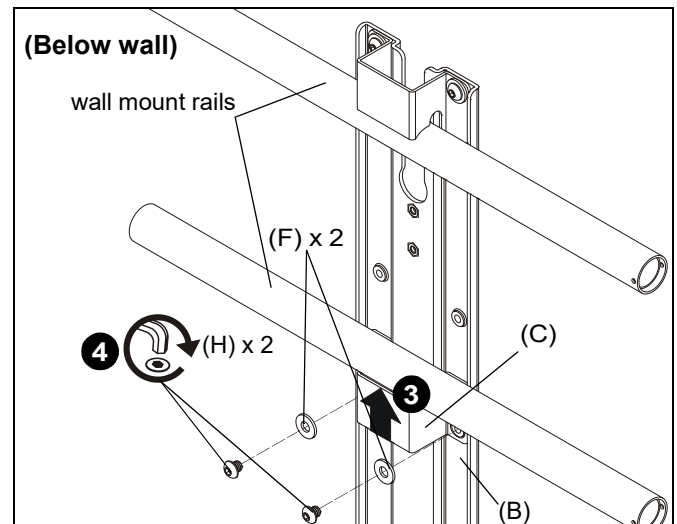

Figure 4
3. Slide second shelf bracket (C) underneath lower rail on wall mount, lining up holes on shelf bracket (C) to main bracket (B). (See Figure 4)
4. Use two 1/4-20 x 1/4" button head cap screws (H) and two large washers (F) to secure shelf bracket (C) to main bracket (B). (See Figure 4)